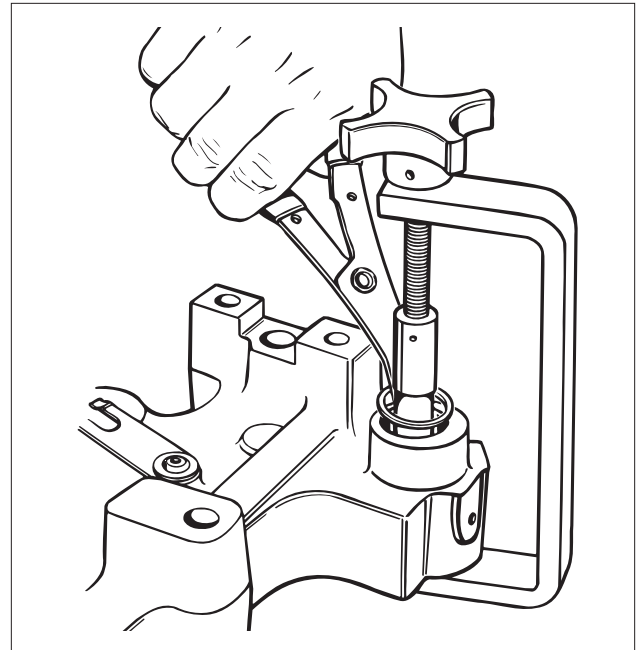

FIG. 41
4. Remove the retaining ring using retaining ring pliers. Back out the holder until the springs are loose. Remove the tool (see Fig. 41).